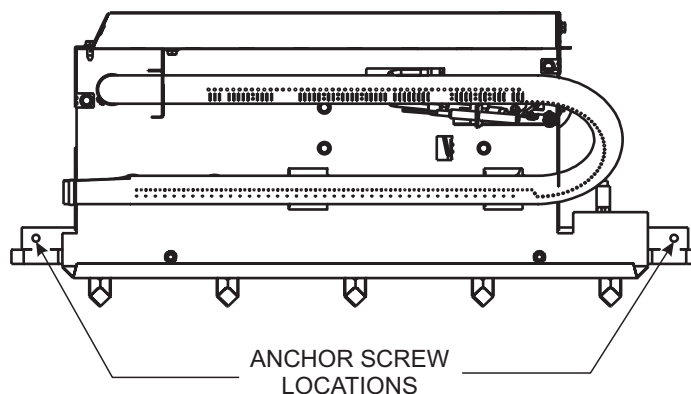

Figure 9
Assembly Procedure: (Figure 9)
2. An anchor hole is provided in the two bottom side members of the grate frame. After centering the grate correctly, mark the hole positions on the fireplace/firebox floor. Drill two (2) 5/32" diameter holes approximately 1-1/2" deep for masonry screws or 1/8" hole for sheet metal screws.
3. Anchor the grate to the fireplace/firebox floor using the screws provided. Refer to Figure 9.